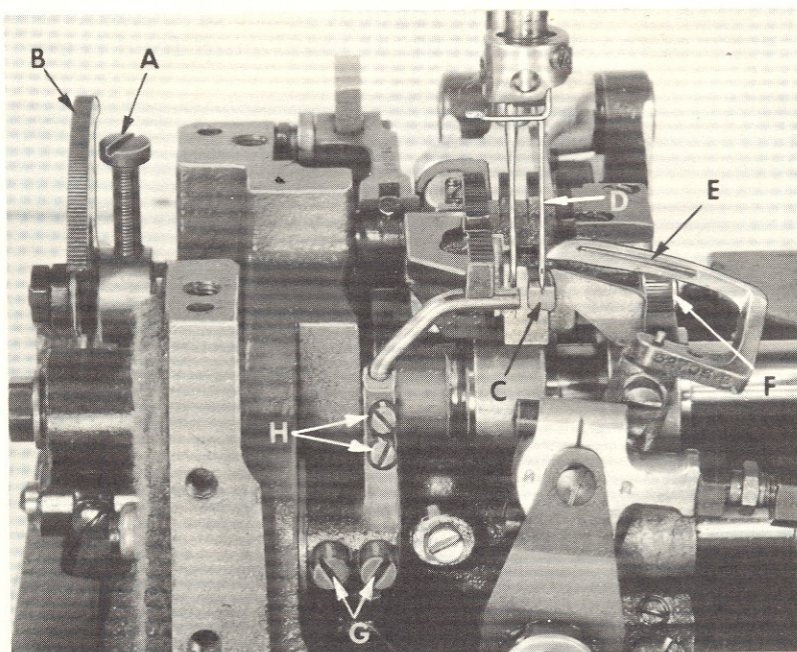

Fig. 10
The differential feed ratio is set by loosening screw (A, Fig. 10) and moving the selector slide (B) to the desired position. The screw and selector slide are accessible through the top of the cloth plate on the left side. Moving the differential feed selector slide (B) toward the front increases the amount of differential and moving it back decreases the differential feed. Retighten screw.
Set the rear needle guard (C, Fig. 10) horizontally so that it does not quite contact the rear of the right needle (D) when at its most forward point of travel. A clearance of .005 inch is permissible. It should be set as low as possible, yet have its vertical face approach within about 3/64 inch of the needle, until the point of the looper (E), moving to the left, is even with the needle. To move needle guard merely loosen screw (F), move needle guard as required, and retighten screw.
Set the front needle guard so that it pushes the left needle back toward the path of the looper as it moves behind the needle. The looper may brush but not pick at the left needle. It should be set as low as possible, yet have its vertical face push the left needle until the point of the looper is just past the left side of the needle. The front needle guard should not contact the rear needle guard or right needle at any time. To move guard forward or backward, merely loosen screws (G, Fig. 10) move needle guard as required and retighten screws. To raise, lower or rotate needle guard, loosen screws (H), move guard and retighten screws after guard is properly set.